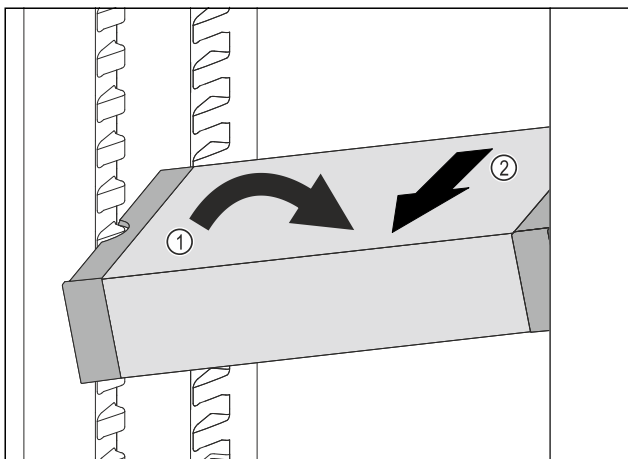

Fig. 161
- Set VarioSafe in refrigerator compartment at an angle. Fig. 161 (1)
- Take VarioSafe out to the front. Fig. 161 (2)